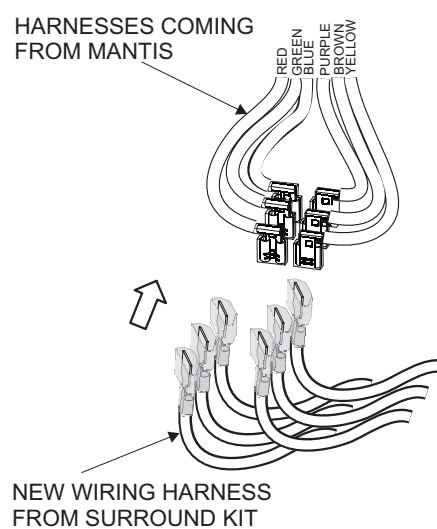
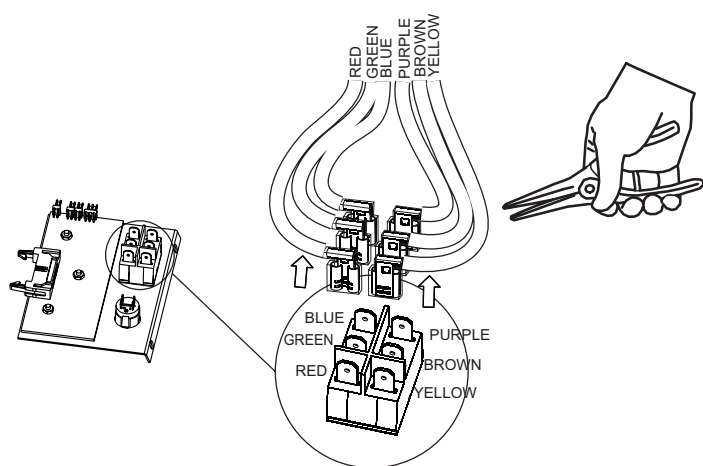

Figure 54
Figure 53
6. Use needle nose pliers to remove the six (6) red capped plugs one at a time from the connectors on the circuit board plate rocker switch. See Figure 53. After each cable is removed from the circuit board plate, attach the matching colored cable on the new wiring harnesses included with the surround kit. See Figure 54.